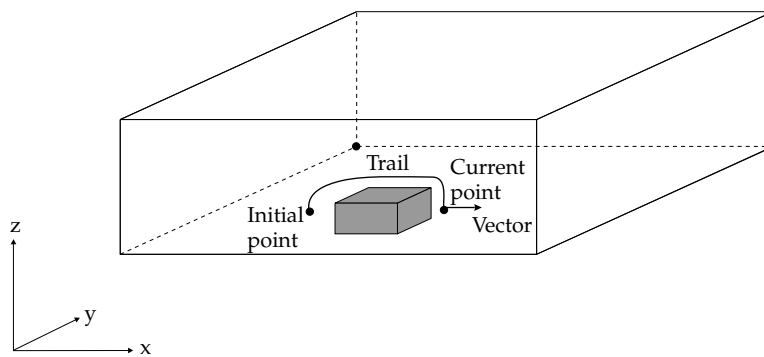

Figure 28.2.9: Point Object
As the point is dragged through the model, its current location will be displayed and continuously updated on the postprocessing objects **Edit** panel (described in Section 28.2.3). The value of the velocity field and the variable for which the point is defined are also displayed, thereby allowing you to interactively acquire information about the solution. If you select the option to leave a trail behind the point, its path through the model will be clearly marked by a continuous curve, as shown in Figure 28.2.9. If the option to
5. (optional) If you want to mark the point path by a visible trail as you move it from its initial location through the model (as shown in Figure 28.2.9), turn on the **Leave trail** option.
6. (optional) If you want to show the magnitude and direction of the velocity at the current location of the point (as shown in Figure 28.2.9), turn on the **Show vector** option. To modify the default vector definition, click **Edit attributes**. See Section 28.2.9 for details.